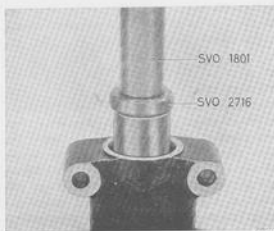
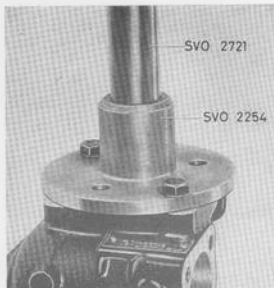

Fig. 6-58. Fitting pitman arm shaft bush
Fig. 6-59. Reaming
1. Press the bushes of the pitman arm shaft from opposite directions with drift 2716 and standard handle 1801, see Fig. 6-58. Ream the bushes with reamer 2254. Use the guide 2254, which is attached to the housing by means of two bolts, see Fig. 6-59. Clean the housing carefully from metal chippings after the reaming.